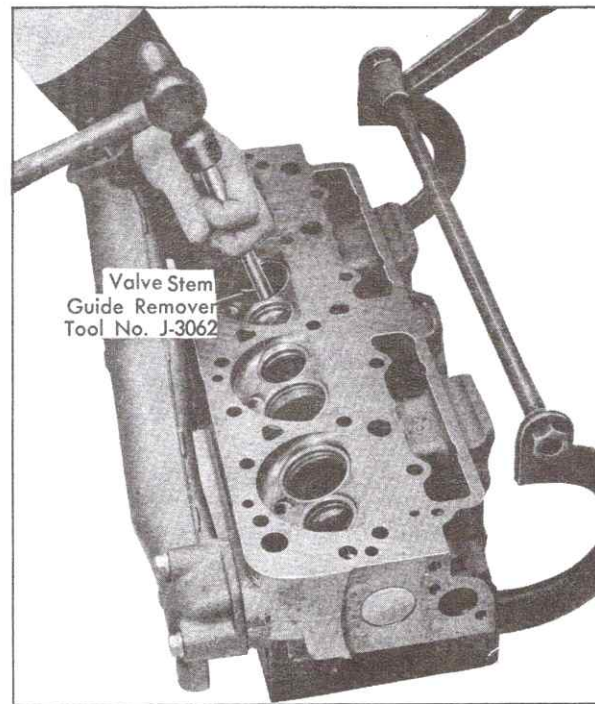

Fig. 6-127 Valve Guide Removal
9. If it is necessary to remove valve guides because of excessive clearance between valve stem and valve guide as specified in Note 112, drive out guides from bottom side of cylinder head, using Valve Stem Guide Remover, J-3062, as shown in Fig. 6-127.